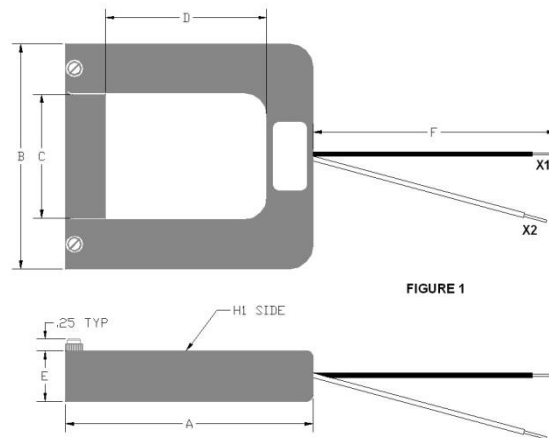

Figure 8: Leviton split core CTs
- Leviton split core CTs (Figure 8): The side with the white dot, H1, must face the incoming LINE. White wire connects to X2 terminal, black wire connects to X1 terminal.